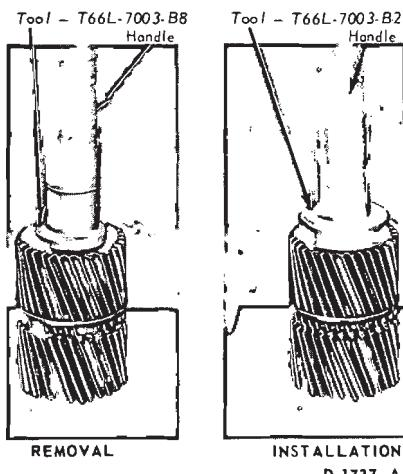

FIG. 90—Replacing Sun Gear Bushing
4. If the sun gear bushings are to be replaced, use the tool shown in Fig. 90 and press both bushings through the gear.
1. Press a new bushing into each end of the sun gear with the tool shown in Fig. 90.